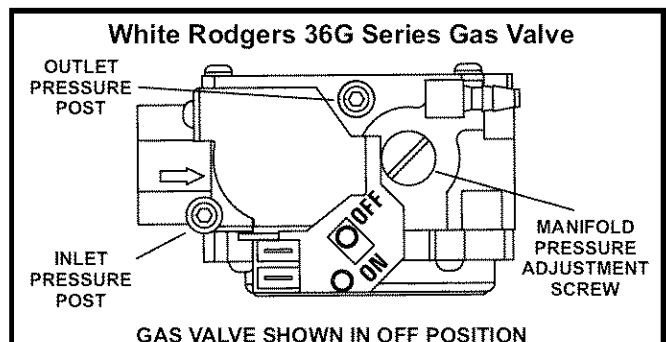

FIGURE 5
**The White Rodgers 36G gas valve (figure 5) is equipped with pressure posts for measuring supply and manifold pressures. The posts provide built-in hose connections and have an integral 3/32" Allen-head screw. Rotate the screw counter-clockwise one full turn to permit pressure measurement. Reseat the screw (rotate one full turn clockwise) after measurements have been taken to prevent gas leakage.**